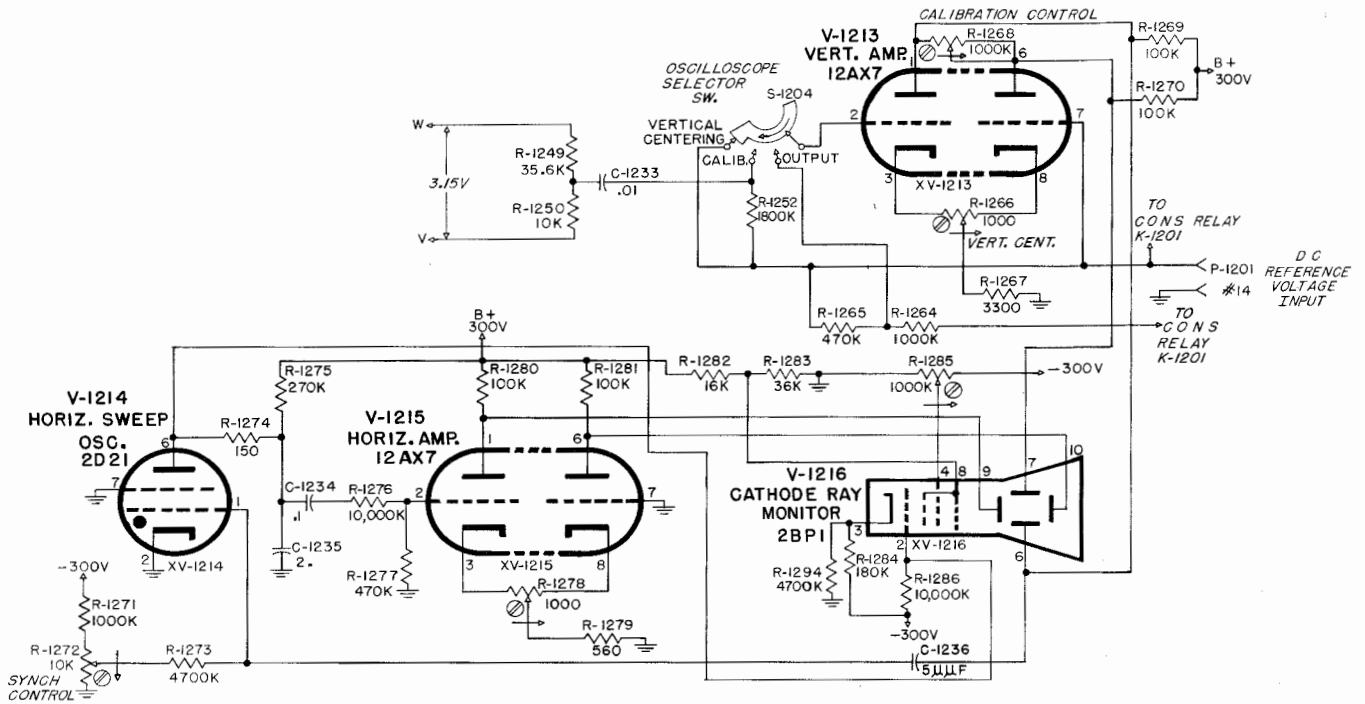

Figure 2-46. Oscilloscope Circuits, Simplified Schematic Diagram
(8) OSCILLOSCOPE CIRCUIT DETAILS (CV-127/FRR-24). (See Figure 2-46).—An oscilloscope consisting of V-1216, a type 2BP1 cathode ray tube, and associated circuits is utilized to properly monitor the signal circuits. Included in this monitoring circuit are a vertical amplifier V-1213, a horizontal sweep oscillator V-1214 and a horizontal amplifier V-1215. An Oscilloscope Selector switch S-1204 provides a means of completing the circuit connections necessary for calibration adjustment and monitoring of the oscilloscope and signal circuits. A voltage divider between plus 300 volts and minus 300 volts supplies all necessary voltages for anodes no. 1 and no. 2. Focusing is accomplished by means of potentiometer R-1285.